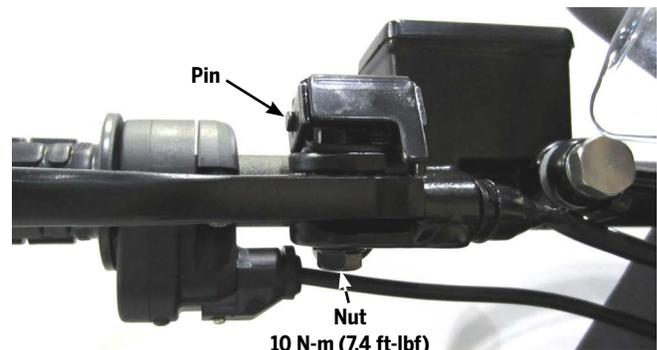

Figure 90: Nut Location
3. Using a 10 mm socket wrench, remove the nut underneath the brake lever (**Figure 90**).
7. Using a 10 mm socket wrench, install the nut underneath the brake lever (**Figure 90**). Torque to **10 N-m (7.4 ft-lbf)**.